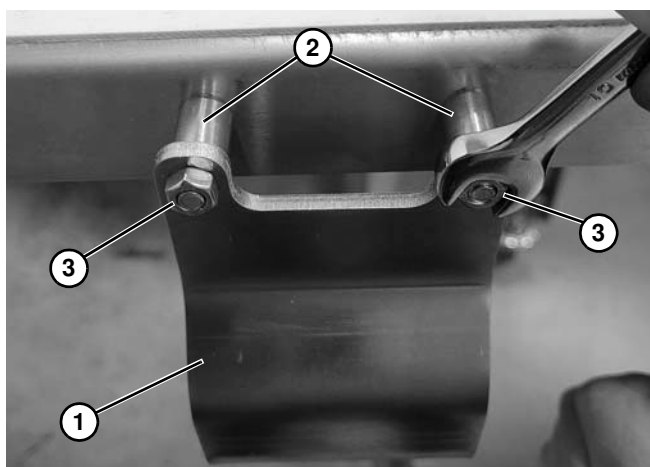

Figure 16
4. Center (if applicable): Attach table top mounting bracket (**Figure 16, item 1**) to the conveyor frame with two spacers (**Figure 16, item 2**) and two carriage bolts and nuts (**Figure 16, item 3**) on each side.